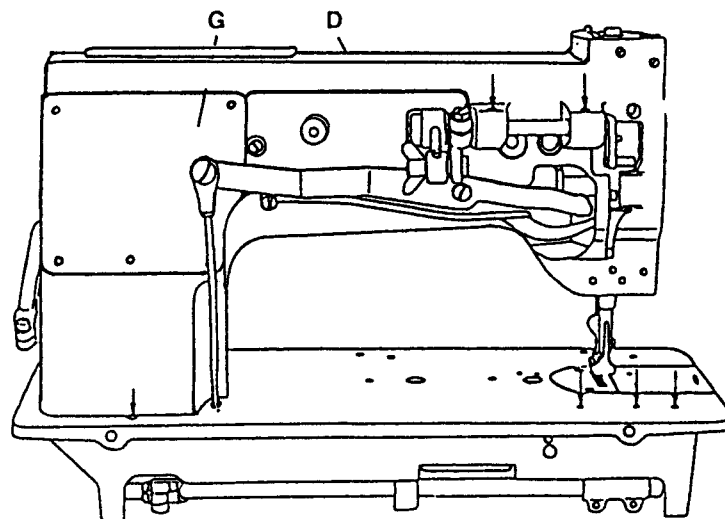
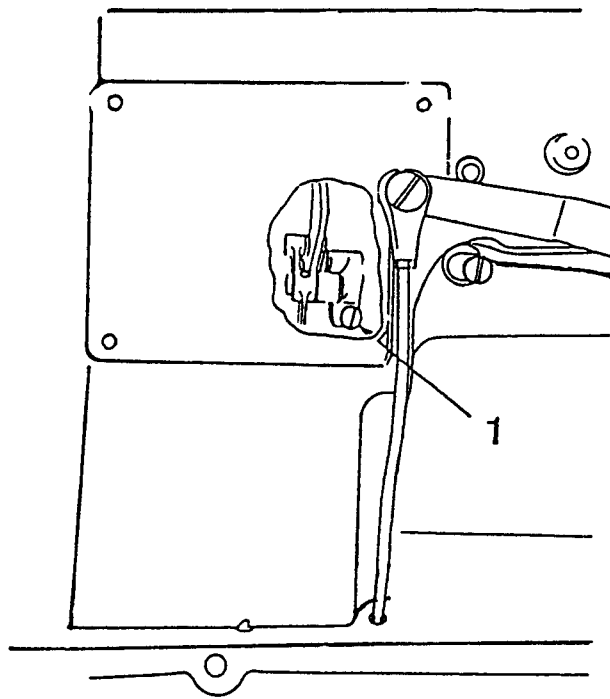

Fig.3
Fig.15
ADJUSTMENT OF THE PRESSURE ON THE MATERIAL (Fig.3)
1. Remove the cover (G, Fig.3) and loosen the screw (1, Fig.15) slightly.